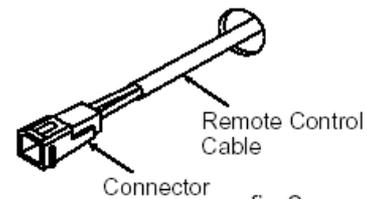

fig.2
3. Run the cable provided through the hole in the wall ensuring that the end fitted with the connector is nearest the controller. (fig. 2.)
4. Connect the spade connectors to the terminals marked "Remote Control" on the printed circuit board (fig.2). Polarity is not important. Either wire colour can be connected to either terminal.